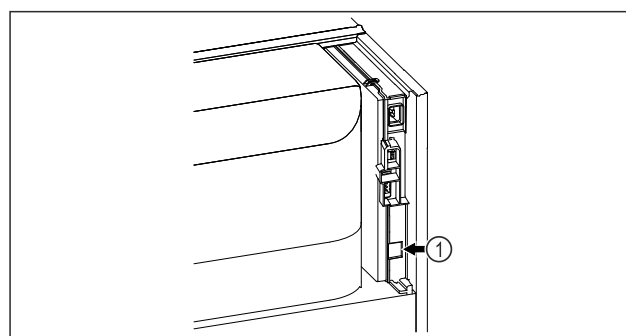

Fig. 62
- SmartModule Fig. 62 (1) is in use.